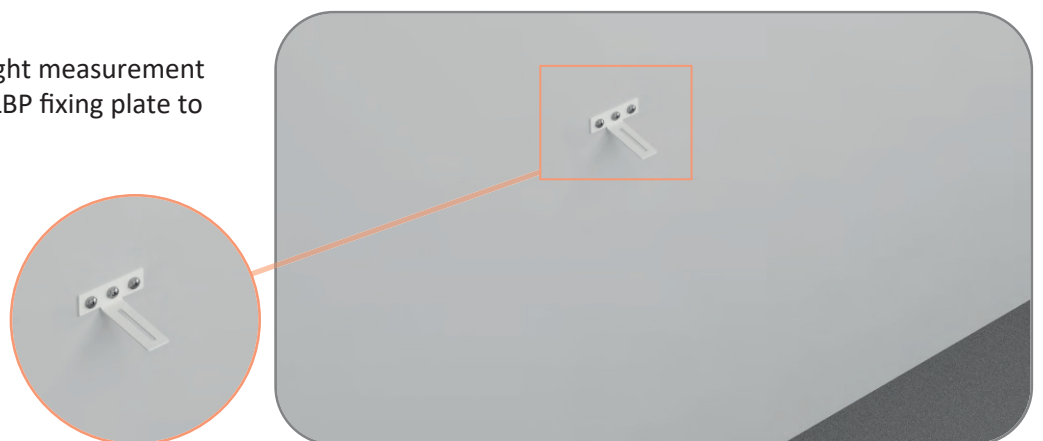

Figure 7.7
STEP 7: After determining the height measurement based on the battery, mount the LBP fixing plate to the wall using a drill. (Figure 7.7)